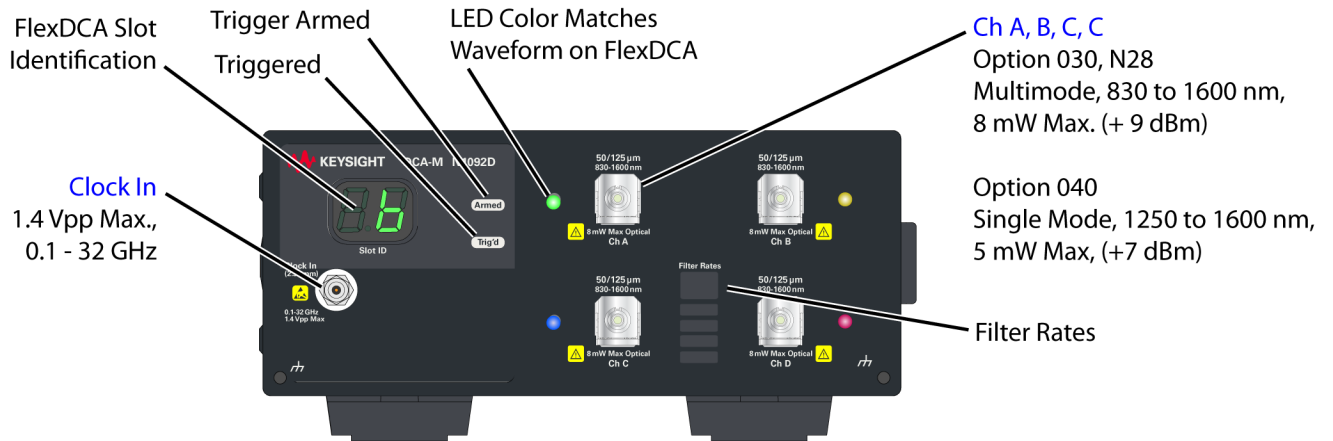

Figure 12. N1092D Front Panel
- *Figure 12, N1092D Front Panel*, on page 34